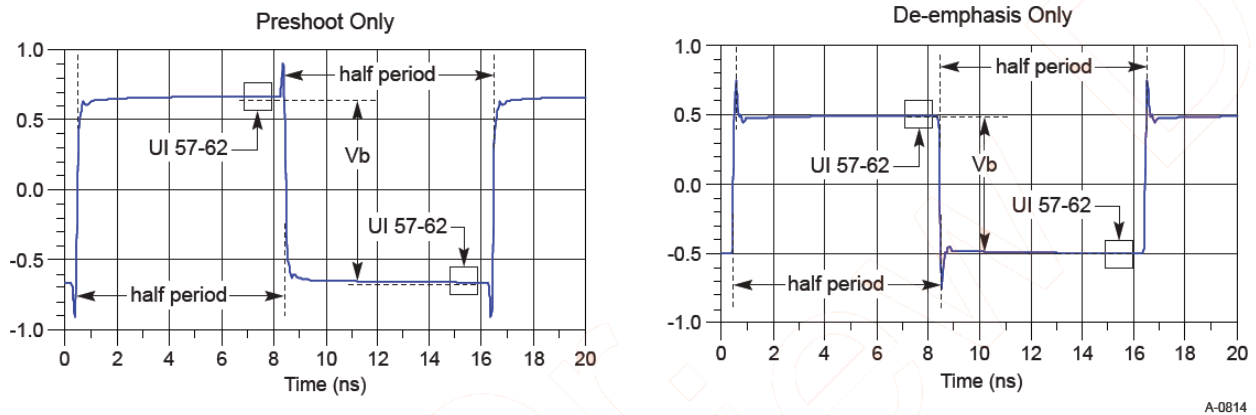

Figure 187 Waveform measurement points for preshoot and de-emphasis
8.0 GT/s, 16.0 GT/s and 32.0 GT/s PCIe signaling must support the full range of presets given in Table 8-1 (PCIe Base Specification Revision 5.0). Presets are defined in terms of ratios, relating the pre-cursor and post-cursor equalization voltages. The pre-cursor (V_c) is referred to as pre-shoot, while the post-cursor (V_b) is referred to as de-emphasis. This convention permits the specification to retain the existing 2.5 GT/s and 5.0 GT/s definitions for Tx equalization, where only de-emphasis is defined, and it allows preshoot and de-emphasis to be defined such that each is independent of the other. The tolerances in Table 8-1 (PCIe Base Specification Revision 5) also apply to 2.5 and 5.0 GT/s de-emphasis. The maximum swing, V_d , is also shown to illustrate that, when both c_{+1} and c_{-1} are nonzero, the swing of V_a does not reach the maximum as defined by V_d . The high frequency nature of PCIe signaling makes measurement of single UI pulse heights impractical. Consequently all amplitude measurements are made with low frequency waveforms as shown in Figure 187.